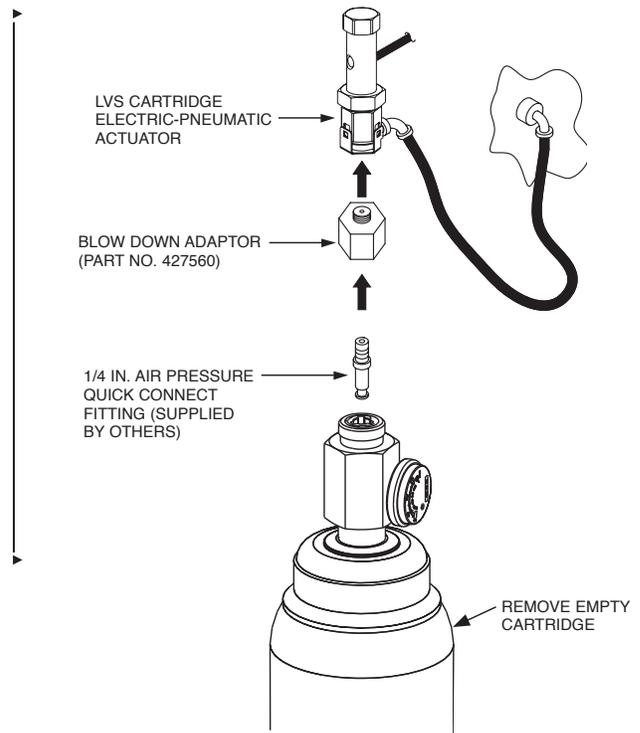

FIGURE 8-1
- b. Attach the blow down adaptor (Part No. 427560) to the electric-pneumatic actuator. See Figure 8-1.